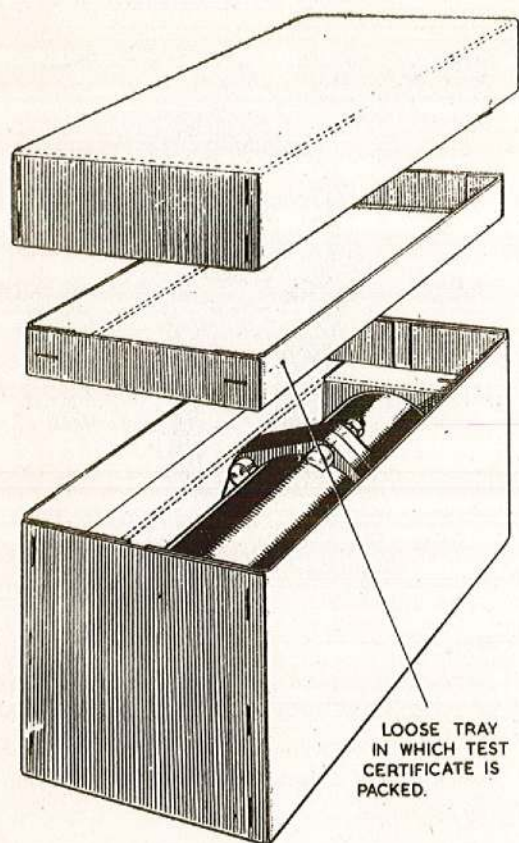

Fig. 7. Special packing box
46. Ensure that the test certificate is complete and satisfactory and include one typewritten copy in the special packing box (*fig. 7*) together with the unit for despatch.